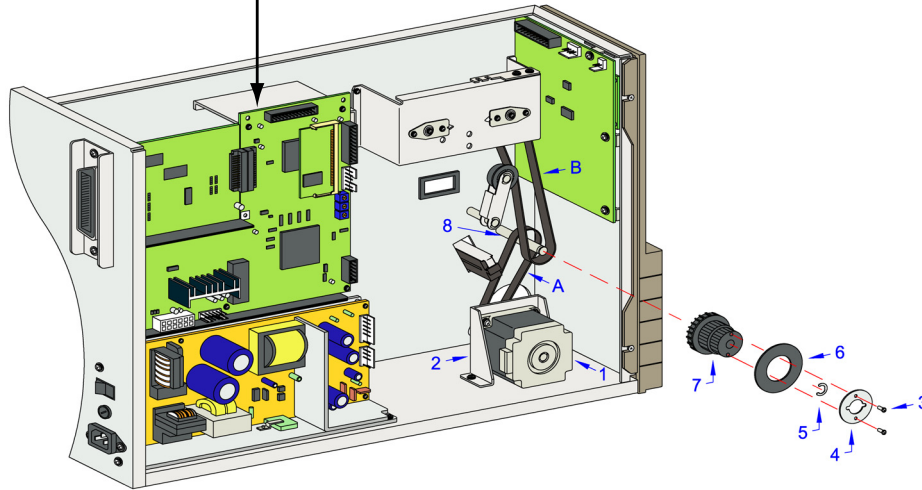

Figure 7-2a, Platen Roller Replacement
2. Loosen the four screws (not referenced) securing drive motor (1, Figure 7-2a) to motor bracket (2).
11. Insert pulley (7, Figure 7-2a) onto platen roller (8) and secure using snap ring (5).